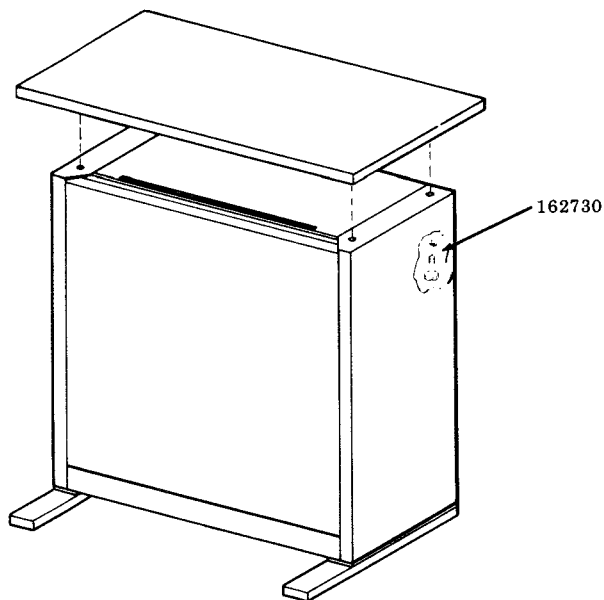

Fig. 19
A. Pedestal Assembly (Fig. 19)